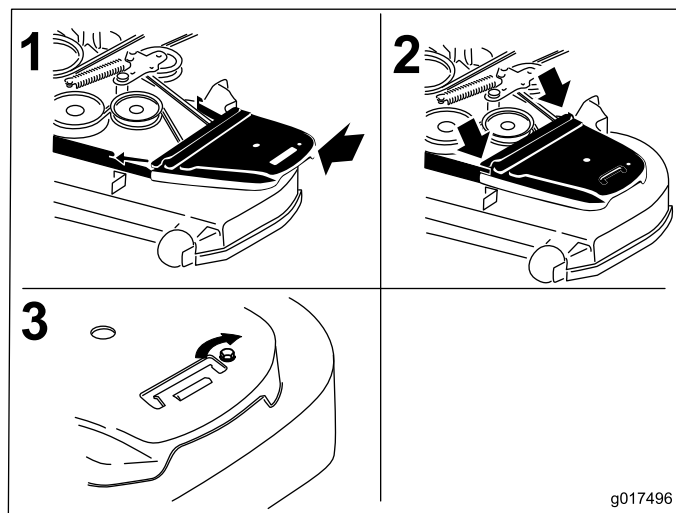

**Figure 56**
5. Use a ratchet in the square hole in the idler arm to remove tension on the idler spring (Figure 56).
7. Remove the belt guide on the spring loaded idler arm shown in Figure 56.
9. Install the new belt around the mower pulleys and the clutch pulley under the engine (Figure 56).
10. Install the belt guide on the idler arm shown in Figure 56.
11. Using the ratchet in the square hole, install the idler spring (Figure 56).